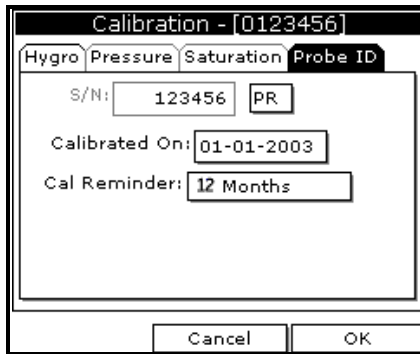

Figure 4: Probe ID Window
4. Use the arrow keys to scroll to the **Probe ID** tab and press [ENTER]. A screen similar to Figure 4 appears.